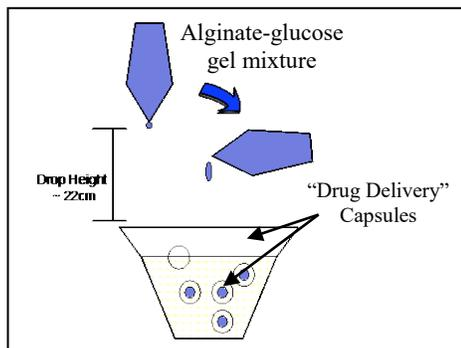

Figure 2. Demonstrating the method for drop formation in CaCl₂
- Hold the container labeled "alginate-glucose" in a vertical position and from a height of approximately 22cm over the cup labeled "CaCl₂" and gently squeeze the container until you observe the formation of a drop from the tip of the container. Then, rotate your container 90 degrees so that it is parallel with the cup containing CaCl₂. Allow the drop that was forming to fall into the CaCl₂ solution (refer to Figure 2).